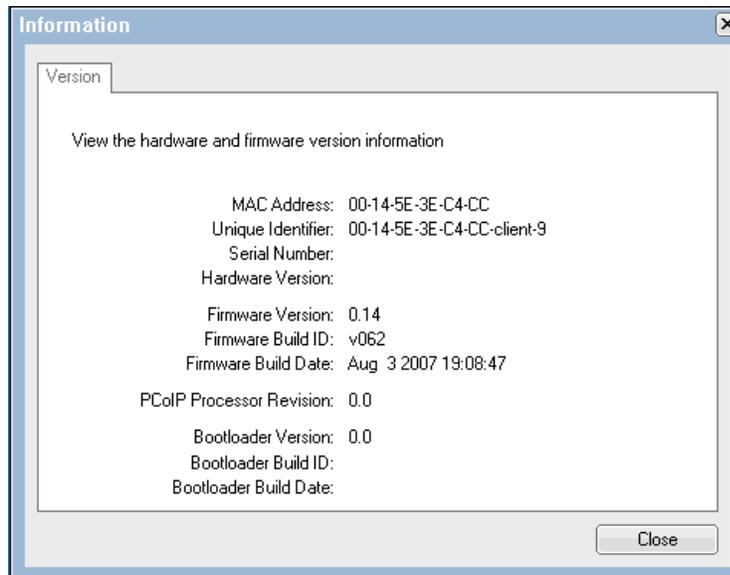

Figure 6-63 The Information window showing the CP20 MAC address
5. The window that opens shows the MAC address, similar to Figure 6-63.